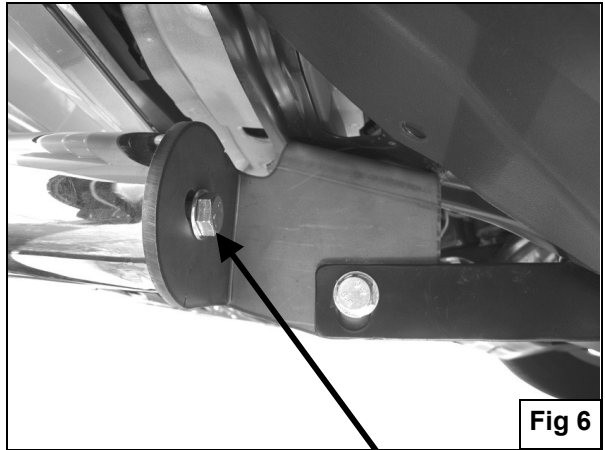

Fig 6
11. With help position Bull Bar onto Mounting Brackets. Attach Bull Bar to Mounting Brackets using the included (2) 12mm x 35mm Hex Head Bolts, (2) 12mm Lock Washers, and (2) 12mm Flat Washers (**Figure 6**).